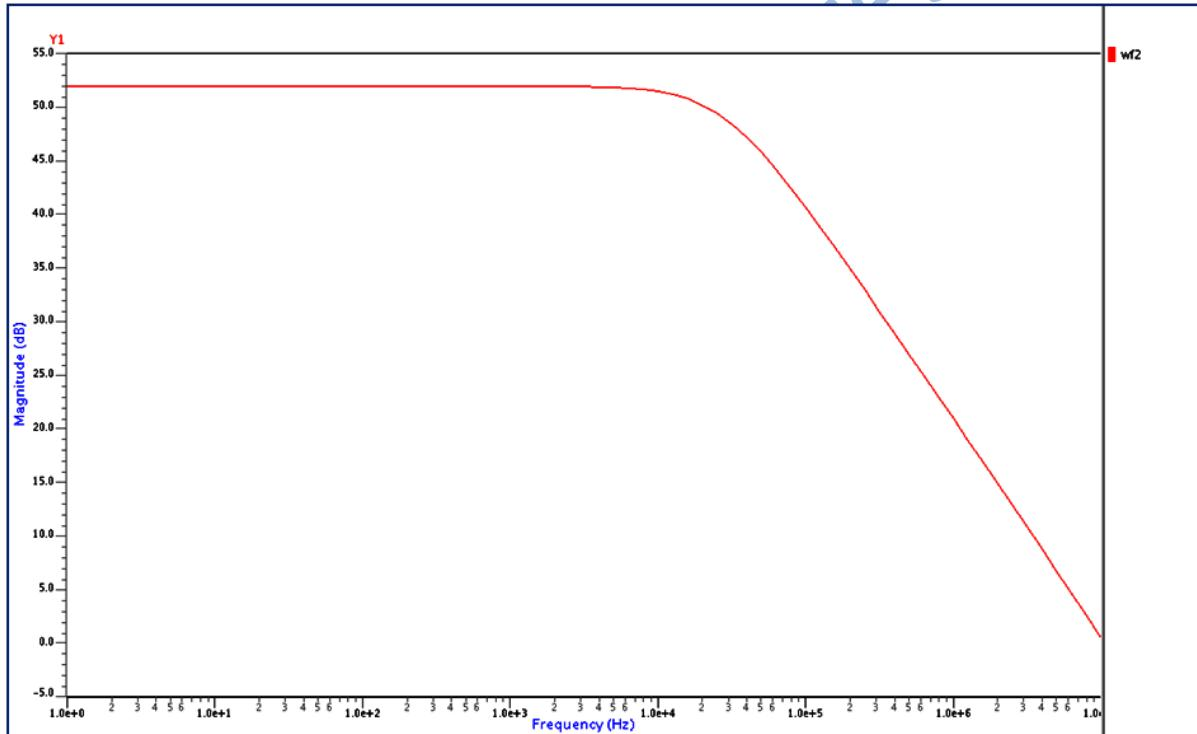

Figure 10: Gain waveform
26. The waveform simulation for gain is shown in Fig 10 below and the gain we get is 51.96dB.